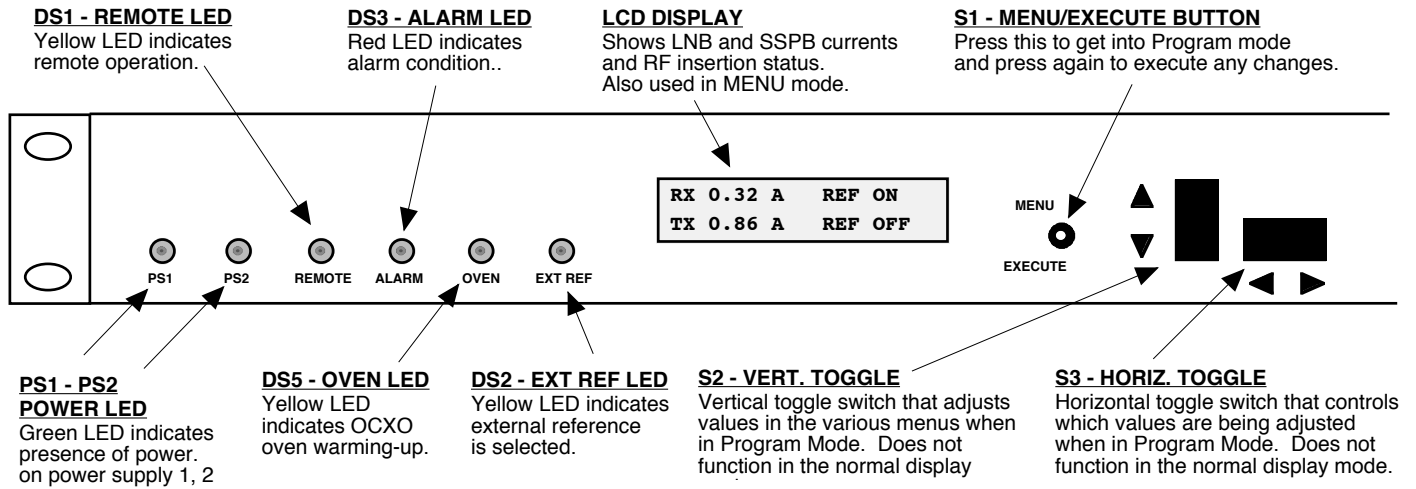

FIGURE 2.2 2099-218 Front Panel Controls and Indicators
6. Be sure DS1 (green, POWER) is on (Figure 2.2).
Alarm indications appear on the LED (see Figure 2.2).